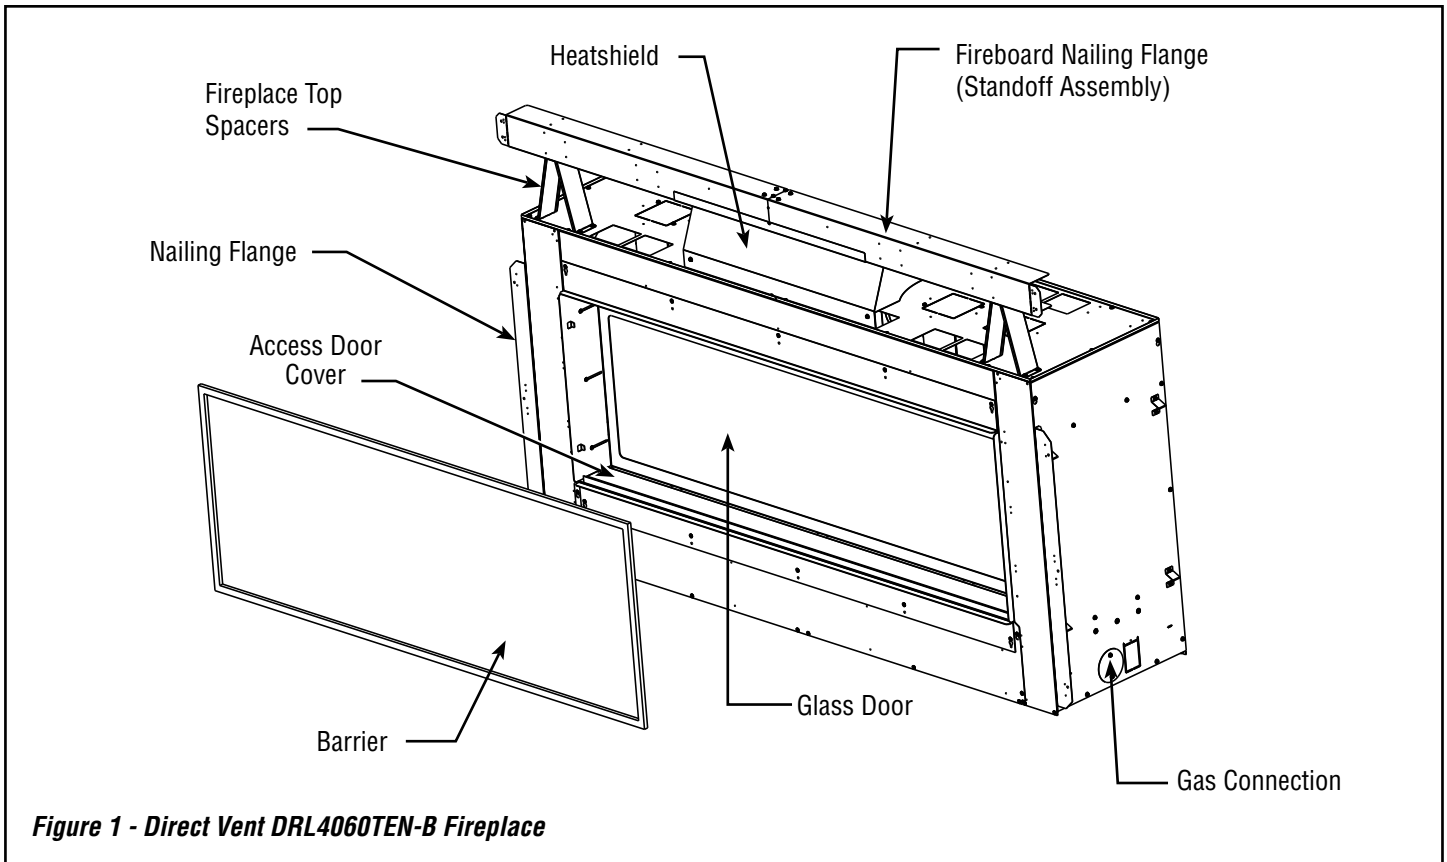

Figure 1 - Direct Vent DRL4060TEN-B Fireplace
- Three (3), 5 lb. bags, Reflective Black Media
- Four (4), AA Batteries
- One (1), Fireboard Top
- One (1), Fireboard Bottom
- Two (2), Fireboard Sides
- Thirty (30) Self Drill Bugle Drywall Screws
- One (1) Standoff Assembly (*see Figure 1*)
- One (1) Heat Shield (*see Figure 1*)
- Twelve (12) #10 Hex Head Screws